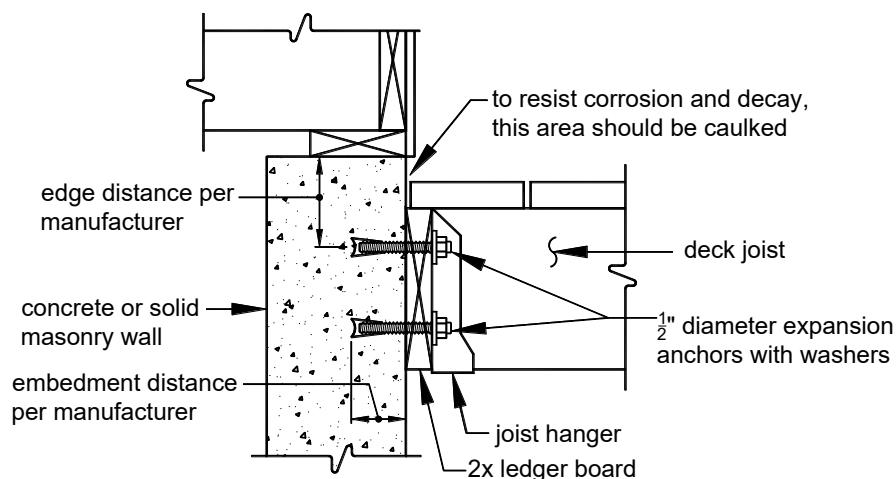

FIGURE 13: LEDGER BOARD-TO-SOLID FOUNDATION ATTACHMENT
**Expansion anchors.** Expansion anchors shall be used only when attaching a ledger board to a concrete or solid masonry wall as shown in FIGURE 13. The bolt or threaded rod of expansion anchors shall have a ½-inch diameter minimum; in some cases, this may require a 5/8-inch anchor size. Expansion anchors must be installed per manufacturer's instructions and shall be equipped with washers.